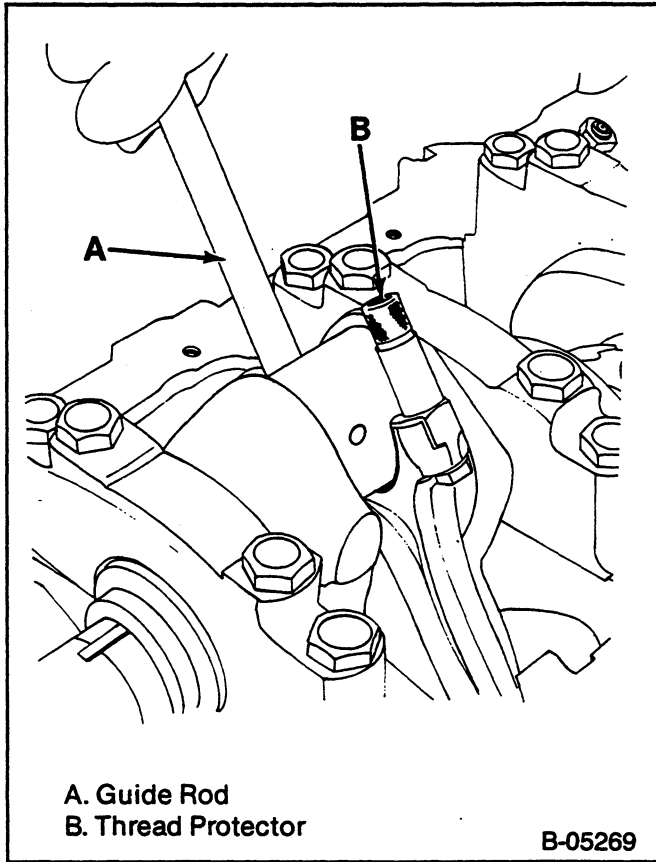
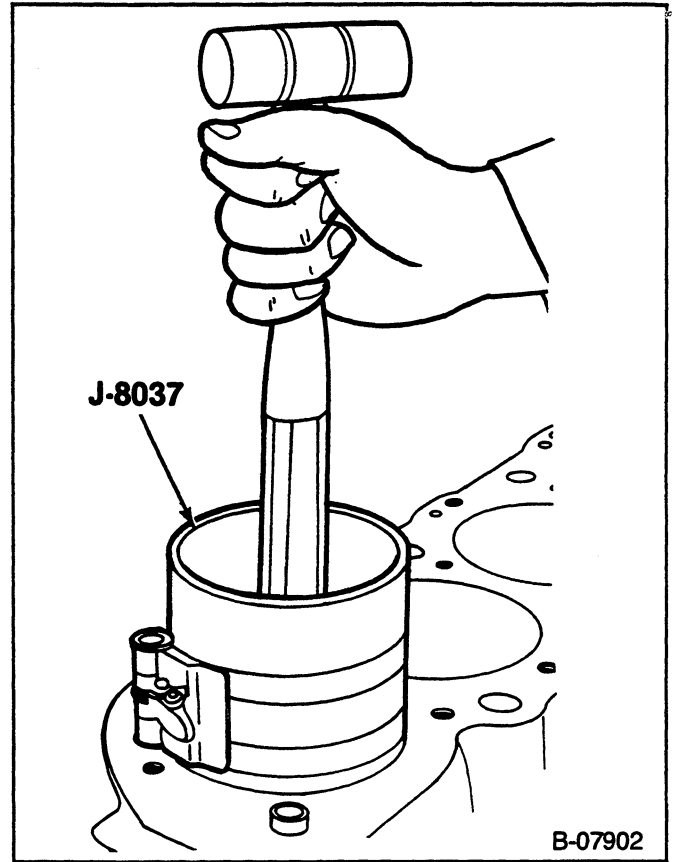

Figure 28—Replacing the Piston and Connecting Rod
Figure 30—Installing the Piston
⇔ Remove or Disconnect (Figure 28)
- Attach J-5239 to the connecting rod bolts (figure 28).
Install or Connect (Figures 28 through 31)
- Without disturbing the ring end gap location, install J-8037 over the piston (figure 30).
- Place the piston in its matching bore. The connecting rod bearing tang slots must be on the side opposite the camshaft. Using light blows with a hammer handle, tap the piston down into its bore (figure 30). At the same time, from beneath the vehicle guide the connecting rod to the crankpin with J-5239 (figure 28). Hold the ring compressor against the block until all rings have entered the cylinder bore.